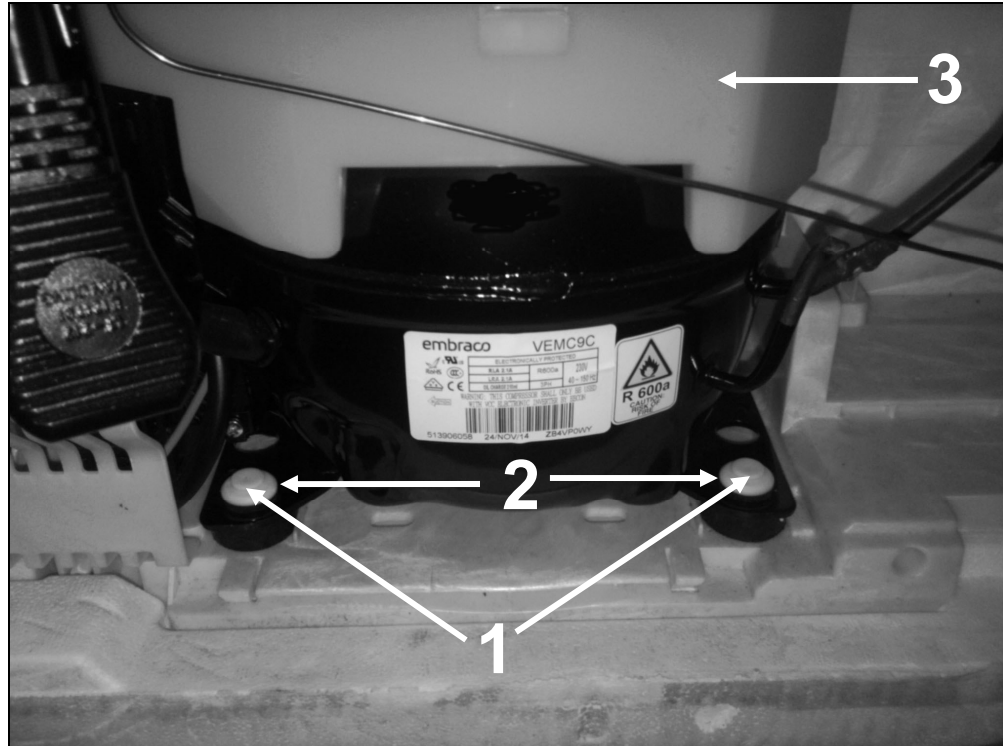

Figure 010-36: Compressor Removal
3. Using a flathead screwdriver, remove the two plastic pins securing the compressor to the base of the appliance. See Figure 010-36, Item 1.
4. Using the same flathead screwdriver, remove the two plastic bushings securing the compressor to the base of the appliance. See Figure 010-36, Item 2.
6. Remove the evaporator tray from the compressor. See Figure 010-36, Item 3.